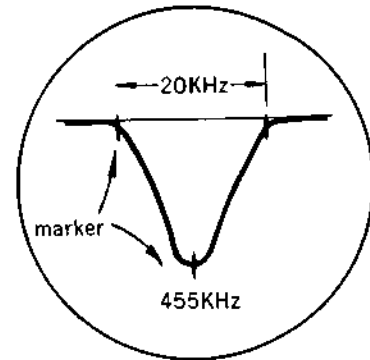

Fig. 14
- a) Connect the Genescope output lead to test points (16) and (18) of the IF printed circuit board (AA-506).
- b) Connect the Genescope input lead to test points (11) and (7).
- e) Adjust the Genescope output to approximately 50 dB (310 μ V). Then adjust the upper and lower cores of T-652, T-653 and T-654 so that the wave forms shown in Fig. 14 are obtained. Adjust them so that the center marker of the three markers divide the wave forms into two symmetrical parts, and the highest peak value is obtained.